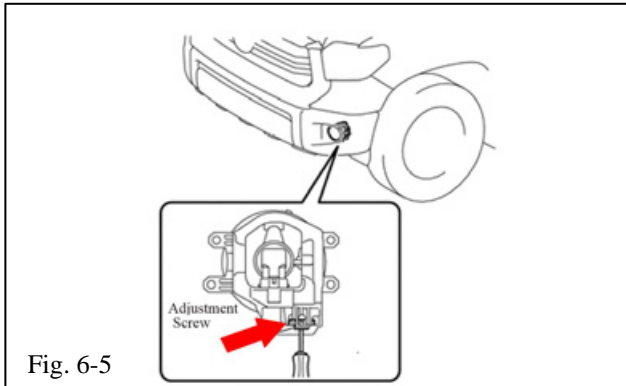

Fig. 6-5
(1) Adjust the aim vertically (Fig. 6-5).
(2) Adjust the aim of each fog light to the specified range by turning the aiming screw with a screwdriver.